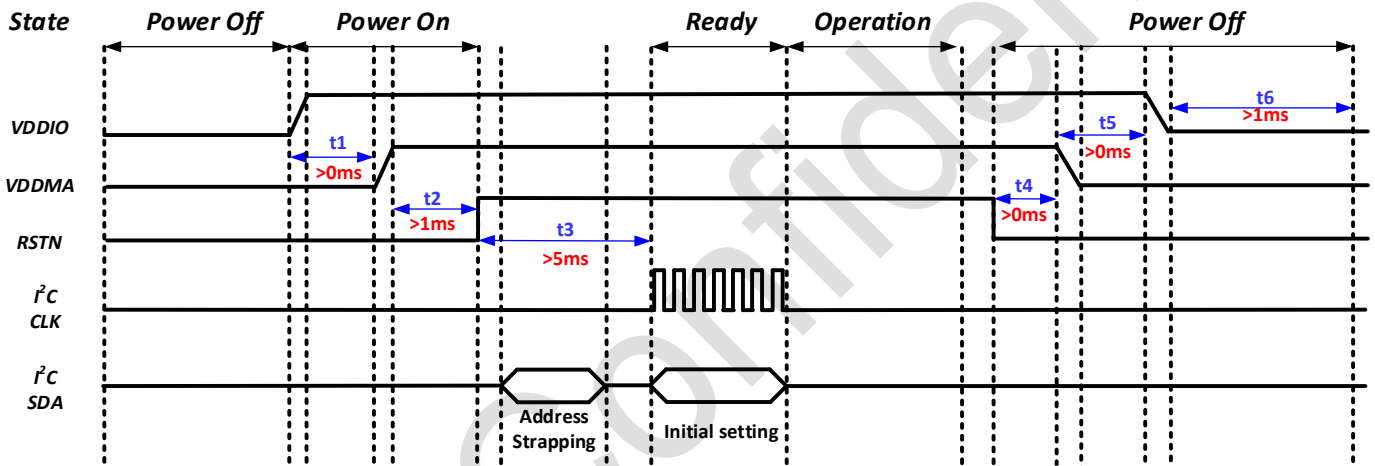

Figure 11. Power On/off Timing Diagram with External Reset Control
- VDDIO and VDDMA power on at same time or follow the sequence as shown in Figure 11.
- VDDMA, VDDIO power off and RSTN asserted at same time or follow the sequence as shown in Figure 11.